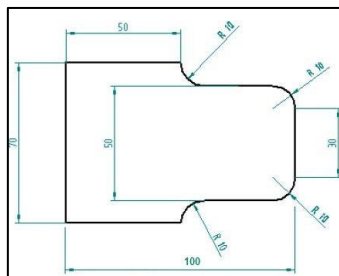

Figure 7: Final Job Shape of the block.
3.1 Develop a Numeric code to perform a turning operation on a cylindrical block to get a job as given in figure 7 on a CNC lathe machine. Use spindle speed of 1000 RPM and feed rate of 2mm/min.